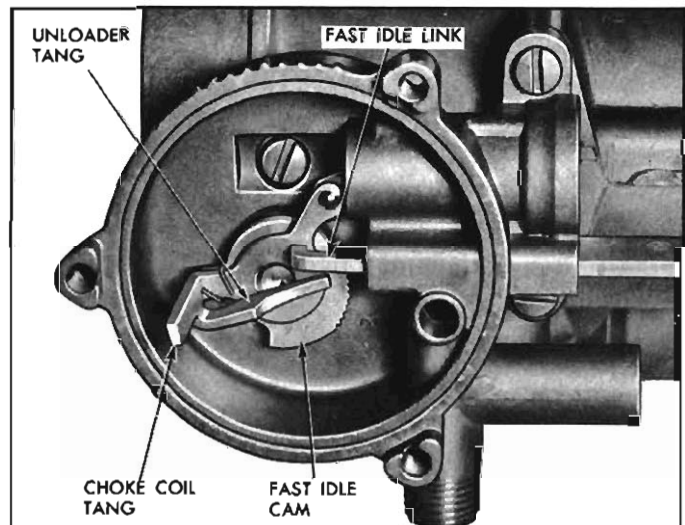

Fig. 39—Choke Housing and Fast Idle Linkage
14. Install fast idle link into choke housing and hook unloader projection over tang on fast idle cam assembly (fig. 39).